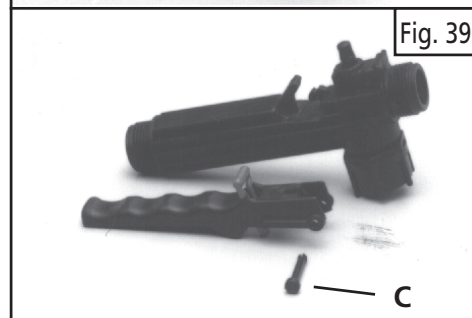

Fig. 39
2) To remove valve core you must first take off the handle. To do this, remove the retaining pin (C) by squeezing the notched end and pushing through the handle. Pull on the pin head until pin clears the handle. Slide the handle off the valve core. (See Figure 39).